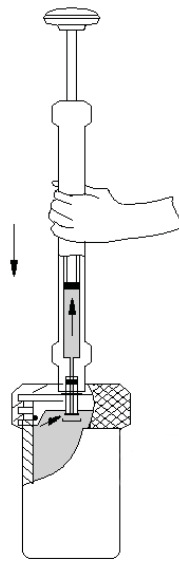

Figure 4-5 Releasing pressure from the cup
1. Reconnect the empty plunger and push down on the cylinder to release pressure (Figure 4-5).